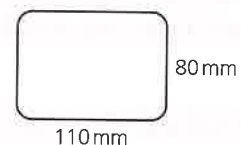

Figure 7.9 Patch to be batch produced from denim fabric
- 8 Patches like the one shown in Figure 7.9 are to be batch produced from denim fabric. Calculate the minimum dimensions of denim required to tessellate 40 patches in a pattern 5 across and 8 down, allowing for a 10 mm tolerance gap between each patch and at the edges of the material.